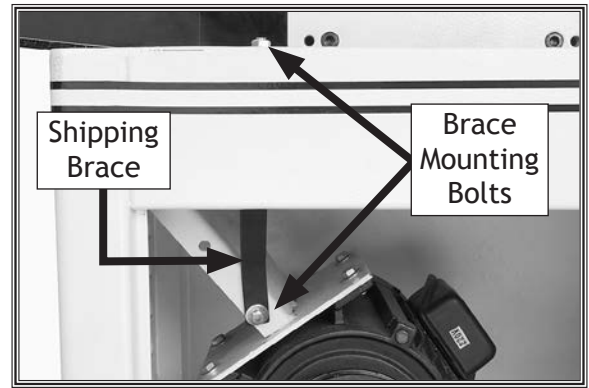

Figure 10. Shipping brace.
5. Remove the shipping brace shown in **Figure 10**, reinstall fasteners in the brace, and save it for possible later use.